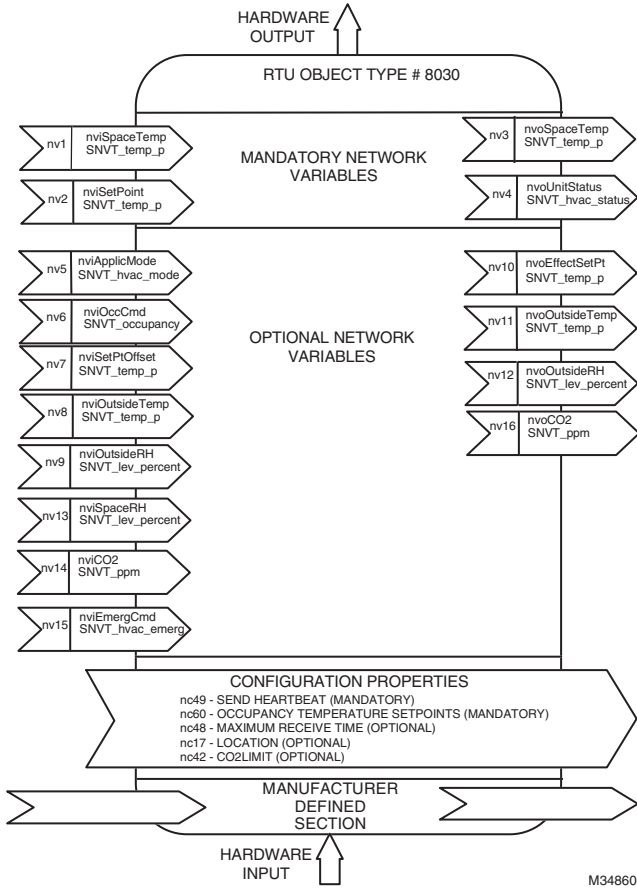
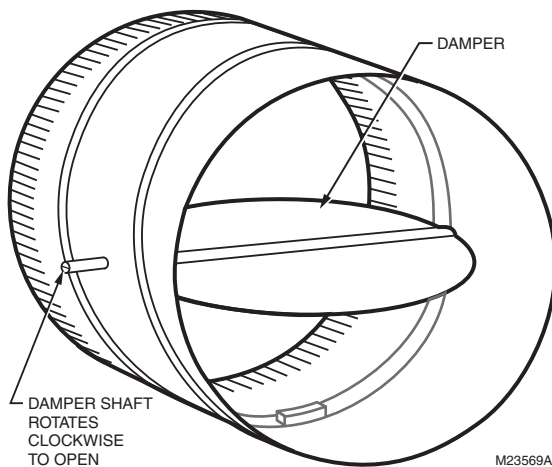
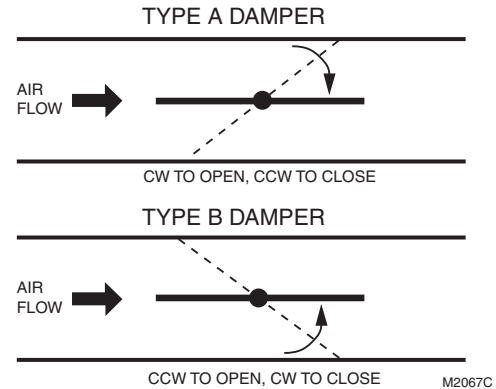

Fig. 2. Object variables for CVAHU controllers.
Fig. 4. Damper with 90 degree CW rotation to open.
Fig. 5. Determining the rotation direction (CW or CCW) for damper opening.
Avoid mounting in areas where acid fumes or other deteriorating vapors can attack the metal parts of the controller, or in areas where escaping gas or other explosive vapors are present (see Fig. 4-Fig. 5 on page 6 for mounting dimensions).
Determine the damper rotation and opening angle prior to installation. See Fig. 4 and 4 on page 5 for examples.
3. Determine the direction the damper shaft rotates to open the damper (CW or CCW) (see Fig. 4). Typically, there is an etched line on the end of the damper shaft that indicates the position of the damper. In Fig. 2, the indicator shows the damper open in a CW direction.
4. Determine the damper full opening angle (45, 60, or 90 degrees). In Fig. 4, the damper is open to its full open position of 90 degrees.